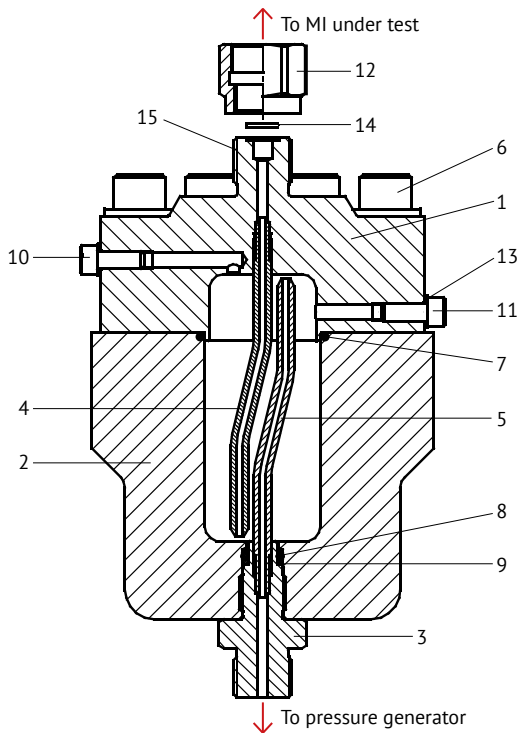

Fig. 1. Membraneless hydraulic separator:
4.1 Panel overview is shown in Fig. 1.
4.2 MHS housing consists of the upper part 1 (Fig. 1) and the lower part 2. Both parts are tightly connected with tubes 4 and 5. To fill the MHS with working liquids, screws 10 and 11 are provided on the upper part 1. To connect MI under test, in the upper part, there is connector 15 with left thread M20x1.5 which is used for connecting nut 12 screwing on (counter-clockwise). To tighten MI under test, rubber-metal sealing 14 is used. This sealing is mounted into ring groove. This sealing ensures tightness with low torques of the connecting nut (by hand). In the lower part 2, there is screwed-in connector 3 with thread M20x1.5 for